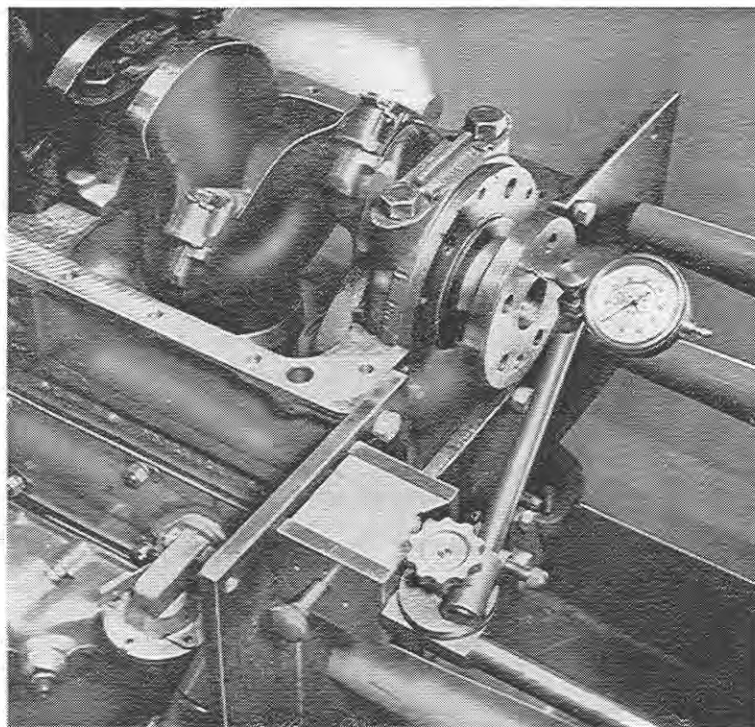

Fig. 34
Push the crankshaft alternately forwards and backwards and measure the play on the crankshaft plate for the flywheel with a dial gauge, or feeler gauges (Fig. 34 and 35).
- 2) Settle approximately 1" of the rope sealing strip at each end into the ends of the groove, ensuring that the strip projects 0.10 to 0.20" (0.25 to 0.50 mm) beyond the half bearing joint face. Allow the middle of the seal to bulge out of the groove during this operation (Fig. 34).